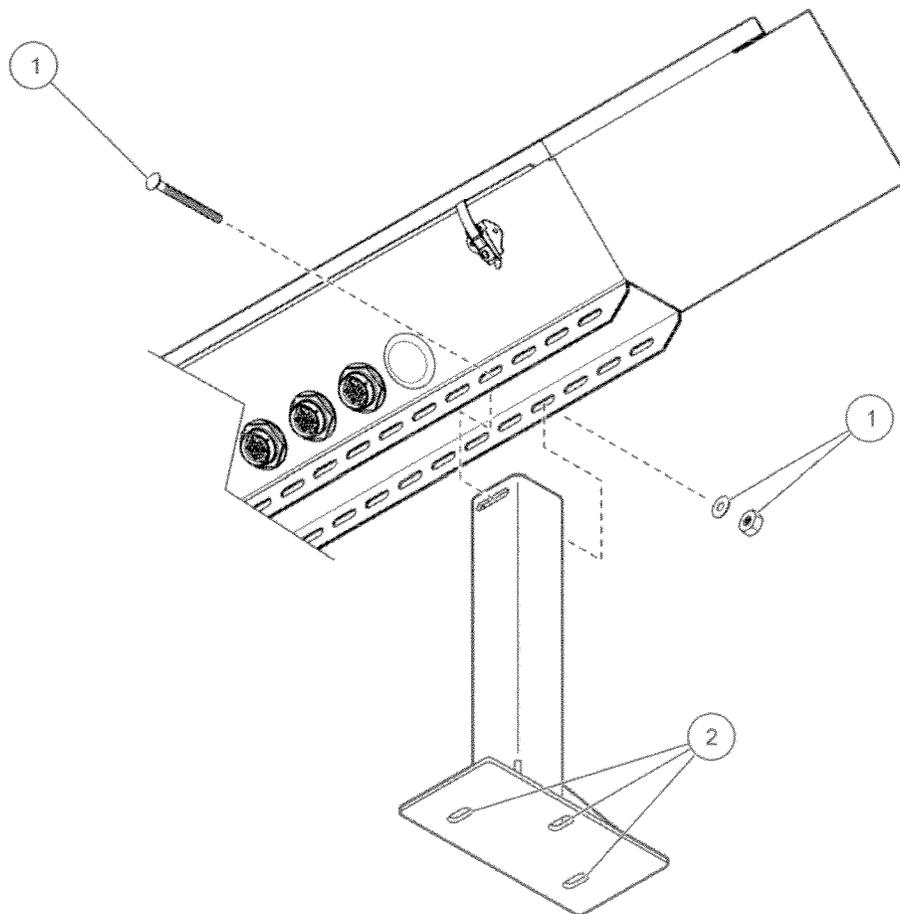
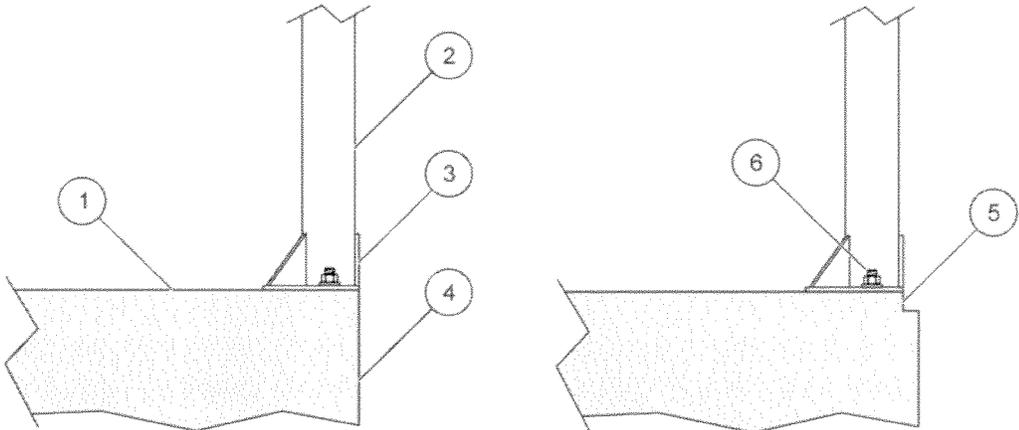

Figure 4 PDC leg assembly
Figure 5 PDC leg position
Refer to Figure 4, Figure 5 and the instructions in this section to assemble and install the PDC.
2. Use the hardware from the mounting kit to mount the PDC legs to the enclosure bracket at the measured channel width (Figure 4).
6. Install the anchors in the concrete. Put the PDC onto the anchor bolts. Make sure that the PDC feet are flush with the channel walls (Figure 5). If the channel has a notch for grating, the PDC feet should be flush with the notch. If needed, adjust the bolt that connects the PDC enclosure to the leg.